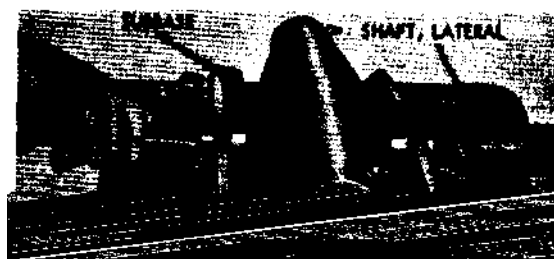

Figure 113. Removing lateral shaft
- (3) Drive lateral shaft from subbase and walking beam and lift off walking beam (fig. 113).